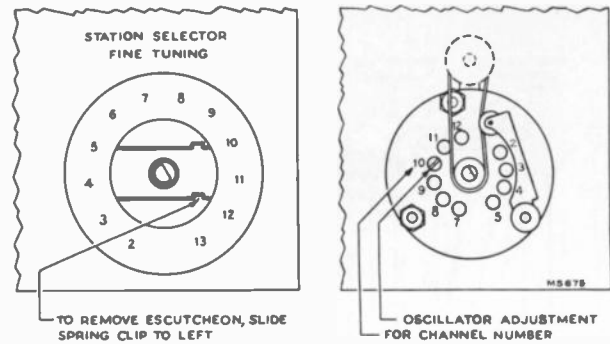

Figure 4—R-F Oscillator Adjustments
**CHECK OF R-F OSCILLATOR ADJUSTMENTS.**—Tune in all available stations to see if the receiver r-f oscillator is adjusted to the proper frequency on all channels. If adjustments are required, these should be made by the method outlined in the alignment procedure on page 9. The adjustments for channels 2 through 5 and 7 through 12 are available from the front of the cabinet by removing the station selector escutcheon as shown in Figure 4. Adjustment for channel 13 is on top of the chassis and channel 6 adjustment is in the kinescope well. See Figures 8 and 9 for their location.